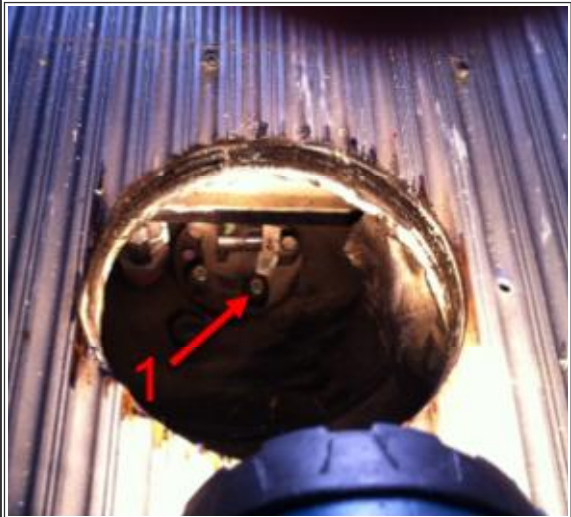

Figure 3: Fuel sender
3. Look in hole to see where fuel sender is located, see figure 3, a flashlight may be needed